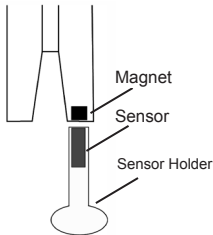

Fig 6
Refer to the Overview Notes on page 4 before starting installation. It is not possible to set out a single installation method for horizontal windlasses. The sensor may be fitted inside the windlass or you may need a sensor holder (Part #9110). See Fig 6 below. Often the sensor and magnet can only be fitted by the windlass manufacturer.
**Sensor Position:** The AutoAnchor sensor may be fitted using a sensor holder fixed to the deck to sit under the chainwheel (See Fig 6). The AutoAnchor sensor holder (#9110) is not included in the standard kit. Check with your supplier if you need this. The AA black sensor and the reed switch sensor must be fitted directly in line with the magnet in the chainwheel. The AA grey sensor may be fitted up to 20mm out of alignment. The gap between the sensor and magnet must be as per the table below.